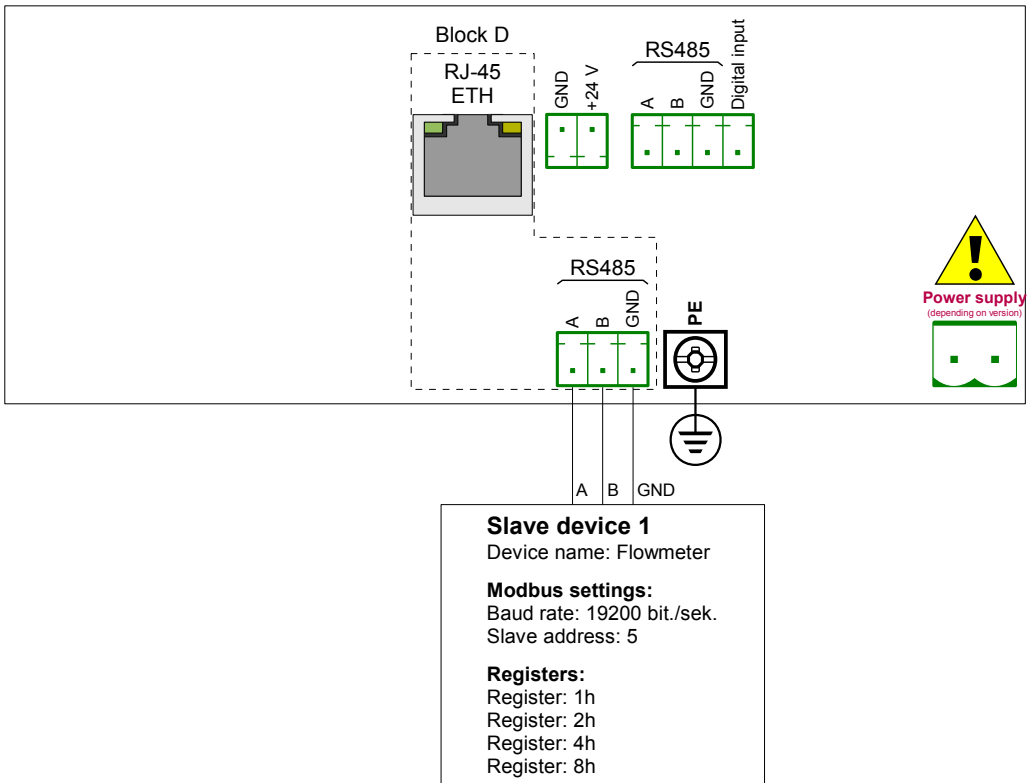

Fig. 7.151. Connection diagram for the Modbus MB2 port
First we need to configure the device according to the following recommendations, then connect the device in according with **Fig. 7.151**.
- using the arrows in the upper right corner choose **Port number: 1** (**MB1** in accordance with **Fig. 7.151**),